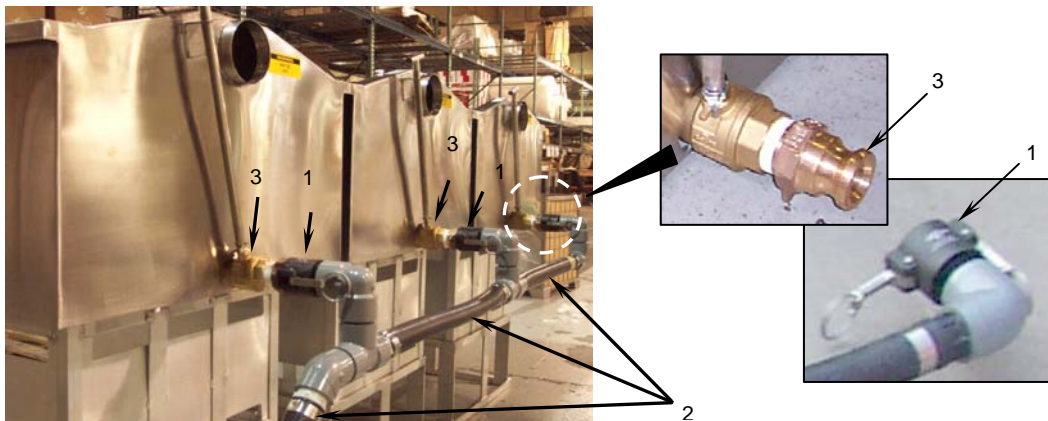

Figure 40. Sink Drain Hose Assembly Removal.
- d. Open the drain hose couplings (**Figure 40, Item 1**) on the drain hose assembly (**Figure 40, Item 2**) and disconnect the hose couplings from the sink drain couplings (**Figure 40, Item 3**).